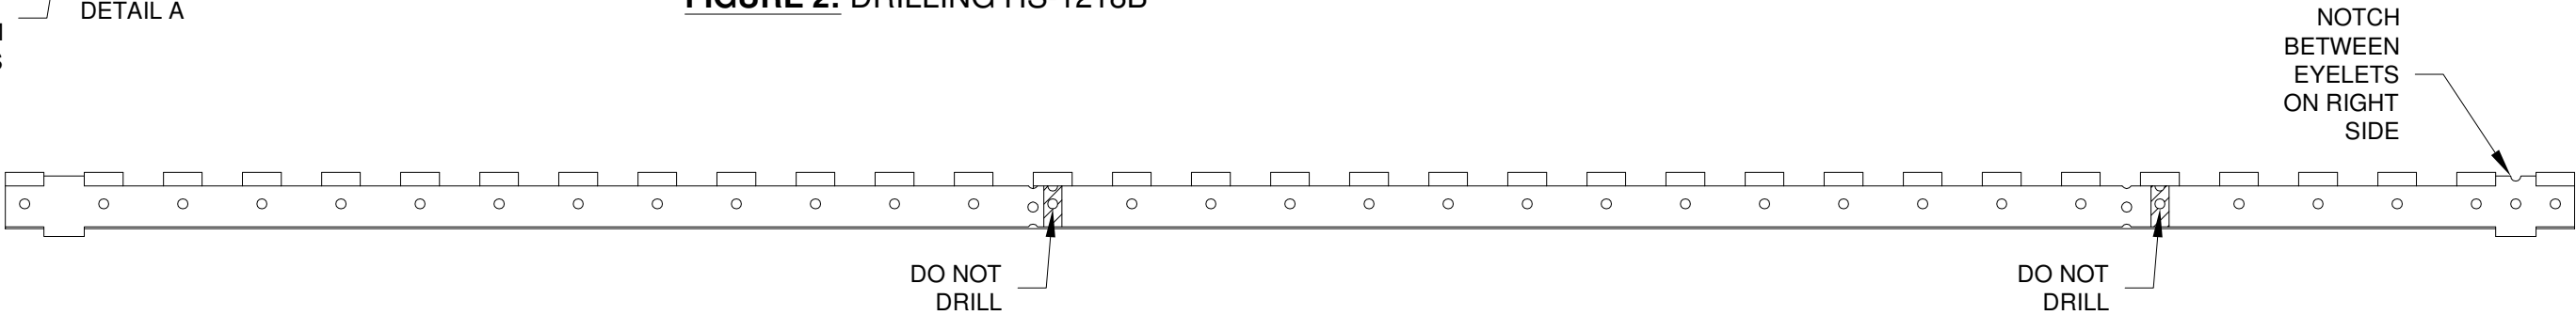

FIGURE 3: DRILLING HS-1218A-L
Step 3: Re-Position the drill guide as shown in Figure 3. Tape over the holes that will not be drilled. Match-Drill #30 the remaining holes to make the F-1218A-L. Repeat this step using Figure 4 to make the F-1218A-R.